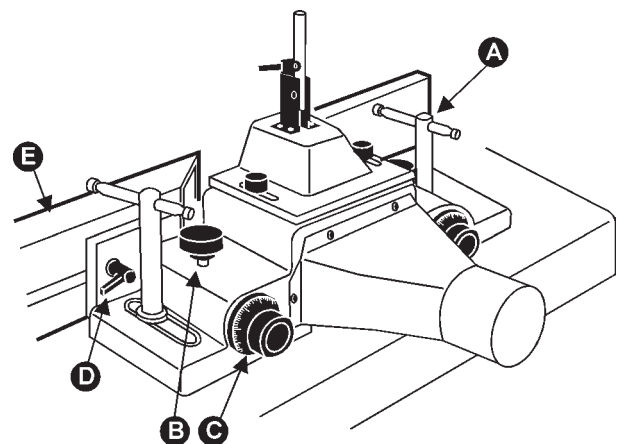

FIGURE 16
1. Loosen the handles (A) and move fence body to desired position, Figure 16. Re-tighten the handles.
2. Loosen the knob (B) and turn the fence knob (C) until correct setting is achieved.
3. Retighten knob (B).
4. Loosen the knob (D) on the connection plate and slide aluminum fence (E) to position, Figure 16. Retighten knob (D).